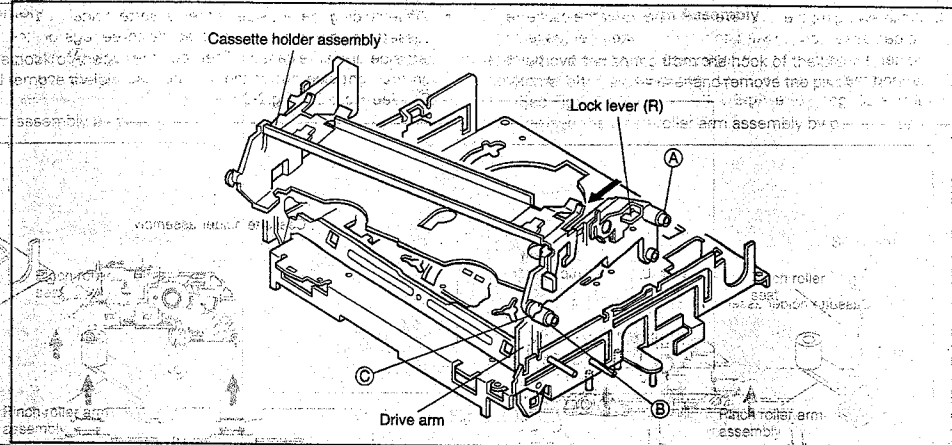

Fig. 2-2-7
- (1) Hold the drive arm upright and fit the leg (C) on the right side of the cassette holder assembly into the groove. (See Fig. 2-2-7)
- (2) While swinging the lock lever (R) of the cassette holder assembly toward front, put the legs (A) and (B) into the rail. (See Fig. 2-2-7)